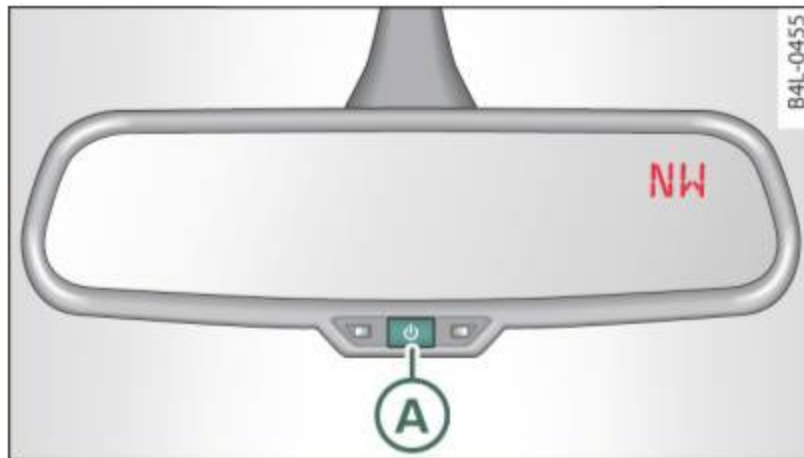

Fig. 90 Inside rear view mirror: digital compass activated
- Hold the **A** ⇒ page 96, fig. 90 button down until the number of the set magnetic deflection zone appears on the interior rear view mirror.